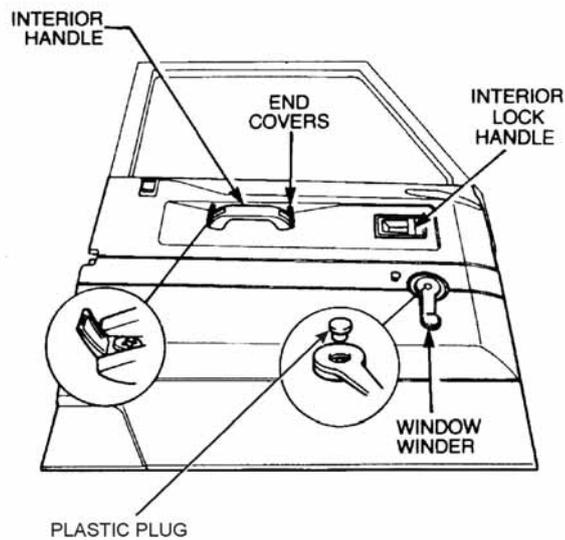

Figure 13 Window Winder Handle Removal
- a. Prise the plastic cover (refer Figure 13) from the window winder handle.
d. Using a small screwdriver, prise the end covers from the interior handle (refer Figure 13).